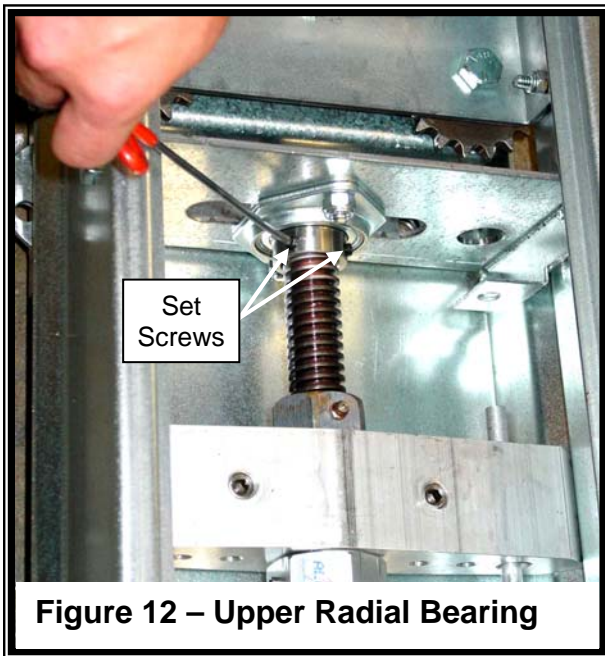

Figure 12 – Upper Radial Bearing
- (5) Push the drive screw upward into the upper radial bearing and ensure the bottom of the drive screw is flush against the thrust bearing. Tighten the two set screws. Refer to Figures 12 & 13.